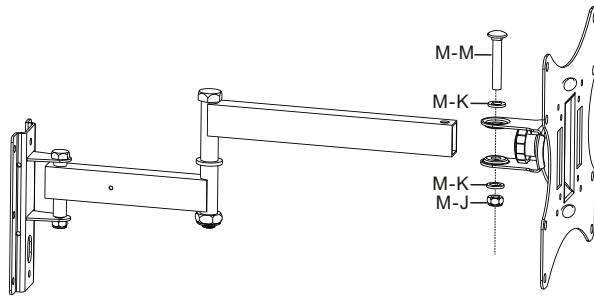

fig. 2.2
- Assemble the adapter bracket and arm of wall plate with appropriate screw, washers and nut. As shown in fig.2.2.